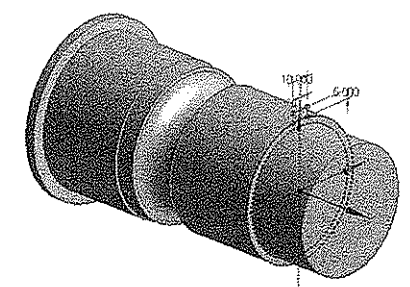

Figure 5-66 Sketch of the extruded feature along with the dimensions
6. Apply the required constraints and dimensions to the sketch, as shown in Figure 5-66.